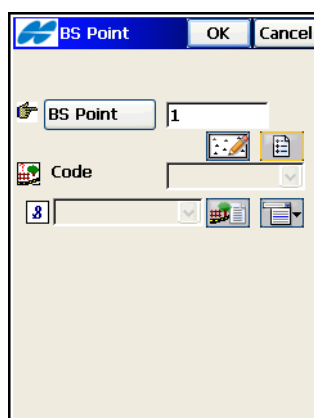

Figure 14-70. BS Point
- **BS Point** – displays the **BS Point** screen for entering the Backsight Point or Backsight Azimuth (Figure 14-70 on page 14-58). If a BS point has not been entered, an Azimuth is required. In this case, if an angle value is entered as *Angle Right*, *Angle Left*, or *Deflection*, this value is considered to be azimuth.
The *BS Point* screen (Figure 14-70) enters the parameters for the *Backsight Point* or *Backsight Azimuth*. Tap the **BS Point/BS Azimuth** button to determine which parameters will display.